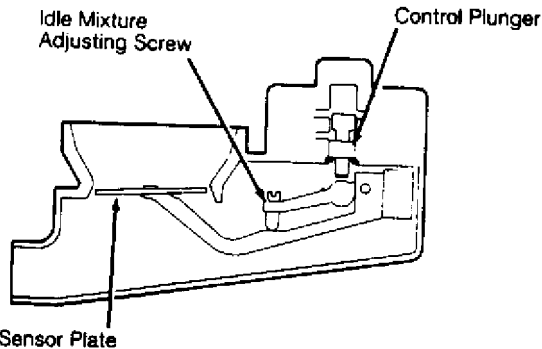

Fig. 1: Cabriolet & Fox Airflow Sensor Assembly (Golf & Jetta Are Similar)
4) Check position of airflow sensor plate. Airflow sensor plate edge must be within .075" (1.9 mm) below the narrowest section of the venturi. See Fig. 1. If not, bend sensor spring until correct specification is obtained. Ensure that there is a small gap between the sensor lever and the control plunger.